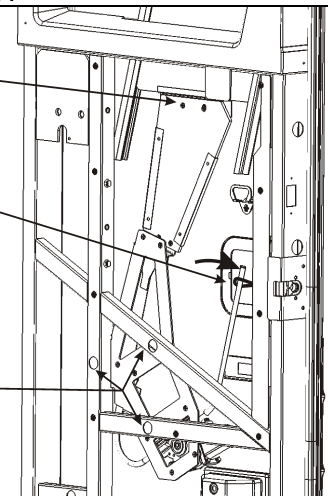

FIGURE 15
11. Install the assembly as per figure 15.